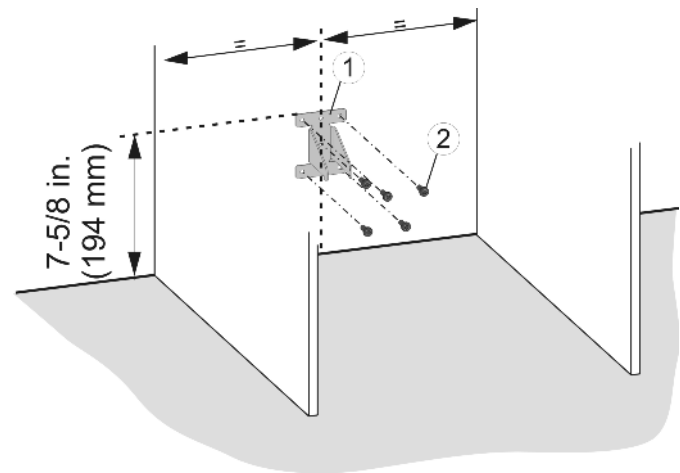

Fig. 28
- ▶ Install the anti-tip device Fig. 28 (1) using appropriate screws Fig. 28 (2).